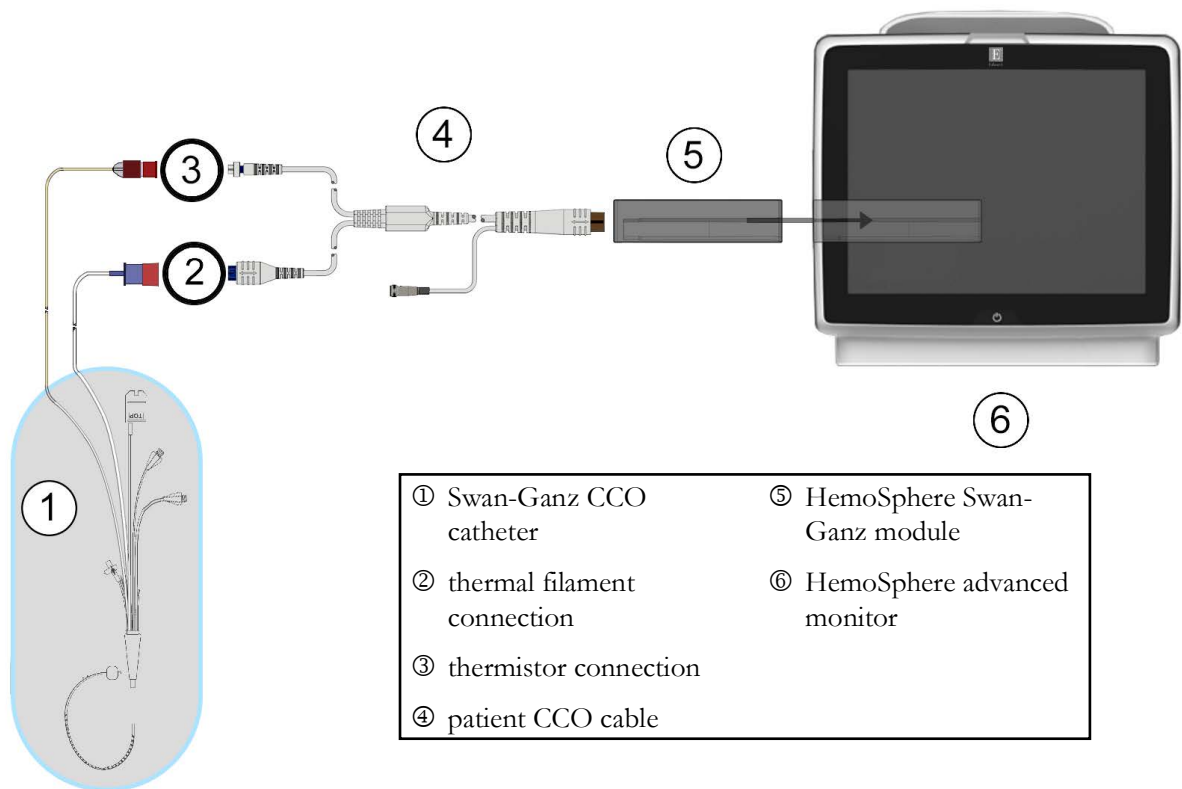

Figure 9-4 CO connection overview
- 2 Attach the catheter end of the patient cable to the thermistor and thermal filament connectors on the Swan-Ganz CCO catheter. These connections are emphasized as numbers ② and ③ in figure 9-4 on page 172.